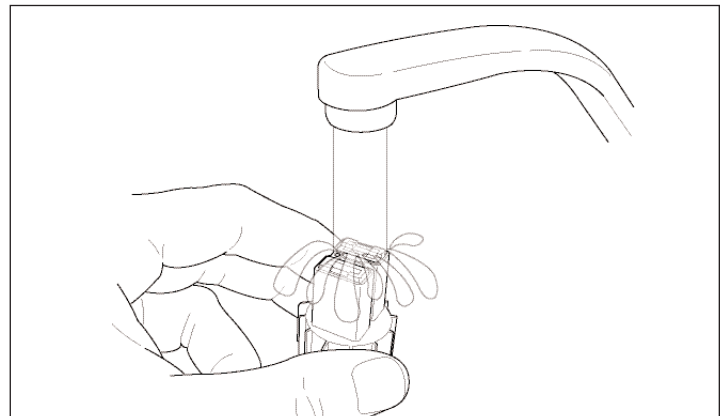

Figure 18. Cleaning the 3-in-1 Nozzle
3. Flush out the clogged nozzle under a steady flow of water from a faucet or garden hose. See Figure 18.